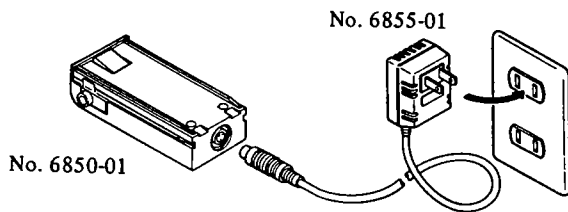

Fig. 91
- (1) Connect the internal battery No.6850-01, the battery charger No. 6855-01 to 120V AC as shown in Fig. 91.